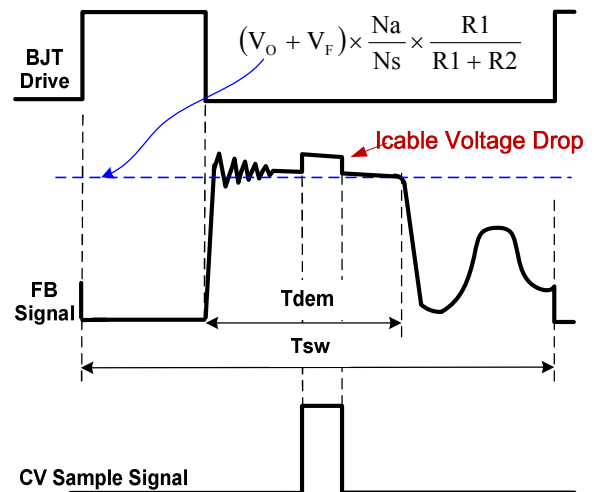

Fig.2
In primary side control, the output voltage is sensed on the auxiliary winding during the transfer of transformer energy to the secondary. Fig.2 illustrates the CV sampling signal timing waveform in DP2525JB. As shown in Fig.2, it is clear that there is a down slope representing a decreasing total rectifier V_f and its voltage drop as the secondary current decreases to zero. To achieve an accurate representation of the secondary output voltage on the auxiliary winding, the CV sampling signal blocks the leakage inductance reset and ringing. When the CV sampling process is over, the internal sample/hold (S&H) circuit captures the error signal and amplifies it through the internal Error Amplifier (EA). The output of EA is sent to the Primary Side Constant Voltage Modulator (PSR-CVM) for CV control. The internal reference voltage for EA is trimmed to 2V with high accuracy.
During the CV sampling process, an internal variable current source is flowing to FB pin for Cable Drop Compensation (CDC). Thus, there is a step at FB pin in the transformer demagnetization process, as shown in Fig.2. Fig.2 also illustrates the equation for “demagnetization plateau”, where V_o and V_f is the output voltage and diode forward voltage; R_1 and R_2 is the resistor divider connected from the auxiliary winding to FB Pin, N_s and N_a are